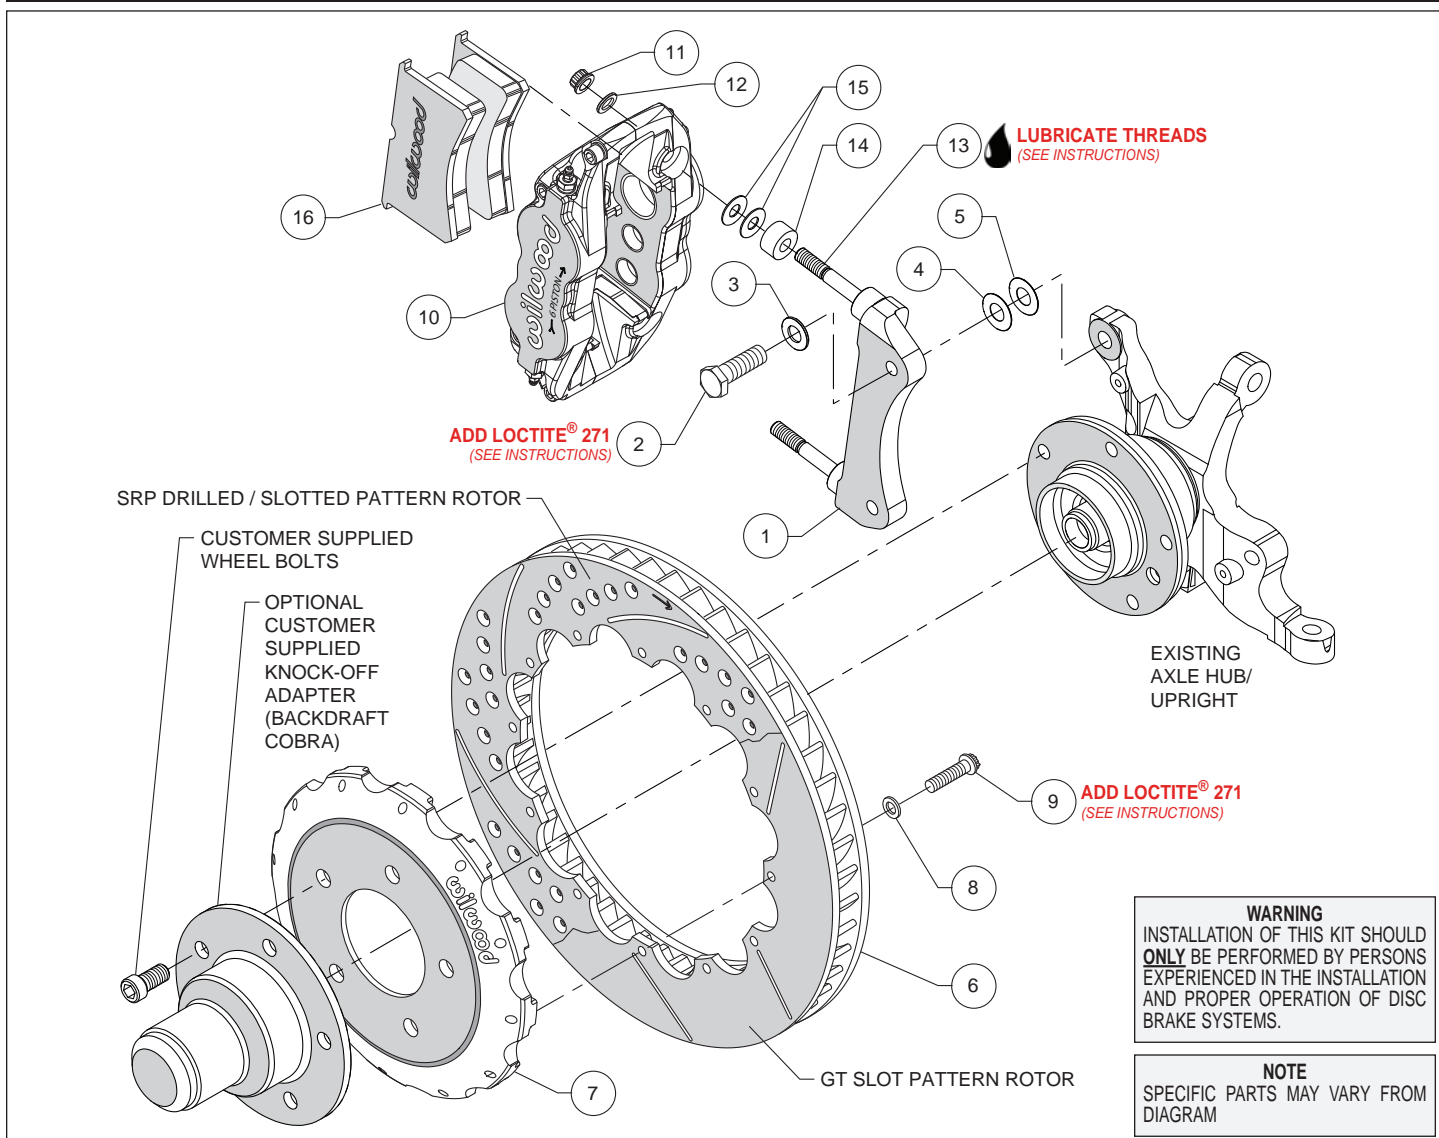
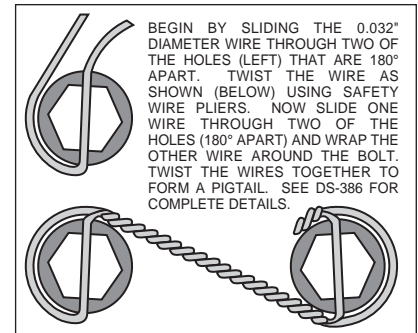

Figure 1. Typical Installation Configuration
Figure 3. Safety Wire Diagram
Assembly Instructions (numbers in parenthesis refer to the parts list and Figure 1 on the preceding pages):
- The caliper mount bracket assembly (1) should initially be installed with clean, dry threads on the mounting bolts. Orient the bracket as shown in Figure 1 and install using mount bolts (2) and washers (3). Initially place one each .033" thick shim (4), and .015" thick shim (5) on each bolt between the bracket and upright, Figure 1. Temporarily tighten the mounting bolts. **NOTE: The bracket must fit squarely against the mount bosses on the backside of the upright.** Inspect for interference from casting irregularities, machining ridges, burrs, etc. Later, after the caliper alignment has been checked, the mount bolts will be secured using *Loctite*[®].
- Orient the rotor (6) and the hat (7) as shown in Figure 1. Attach rotor to hat using bolts (9) and washers (8). Using an alternating sequence, apply red *Loctite*[®] 271 to the threads and torque bolts to 155 **in-lb**. For an added measure of security, the bolts may be safety wired using standard 0.032 inch diameter stainless steel safety wire as shown in Figure 3. Please refer to Wilwood's data sheet DS-386 (available at www.wilwood.com/Pdf/DataSheets/ds386.pdf) for complete safety wire installation instructions.
- Slide the hat/rotor assembly (6/7) onto the axle hub. **NOTE: The hat must fit flush against the axle hub or excessive rotor run out may result.** Install the optional customer furnished knock-off over the hat/rotor assembly as shown in Figure 1. Install three customer supplied wheel bolts (finger tight) to keep the hat/rotor and knock-off assembly in place while continuing with the installation.
- **NOTE: This kit contains distinct right and left hand calipers that must be mounted in a specific direction, as described below.** Lubricate the caliper mounting studs (13) with lightweight oil. Slide spacer (14) and two .035" thick shims (15) on each stud between the caliper and the bracket, as shown in Figure 1. Mount the caliper (10) onto the bracket (1) using lock nuts (11) and washers (12), Figure 1. Temporarily tighten the lock nuts. Ensure that the caliper is mounted so the largest pistons are at the rotor exit end of the caliper, in relation to the direction of the rotor. View the rotor (6) through the top opening of the caliper. The rotor should be centered in the caliper. If not, adjust by adding or subtracting shims (4 and/or 5) between the bracket and the upright. Always use the same amount of shims on each of the two mounting bolts. Once the caliper alignment is correct, remove the bracket mounting bolts one at a time, apply red *Loctite*[®] 271 to the threads, and torque to 65 ft-lb.
- Remove the caliper center bridge pad retainer bolt, nut, and tube from the caliper. Insert the brake pads (16) into the caliper, with the friction material facing the rotor, Figure 1. Check that the top of the brake pad is flush with the outside diameter of the rotor. If not, adjust by adding or subtracting shims (15) between the caliper and the bracket. After the caliper pad height is set, torque the caliper lock nuts (11) to 28 ft-lb. Secure the brake pads in place with the center bridge pad retainer tube, bolt, and lock nut. The locknut should be snug without play in the bolt or tube. Be cautious not to over tighten.